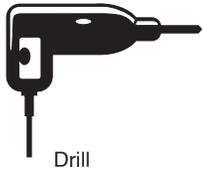

Fig. 4
- 4) Do not twist the product (Fig. 4)